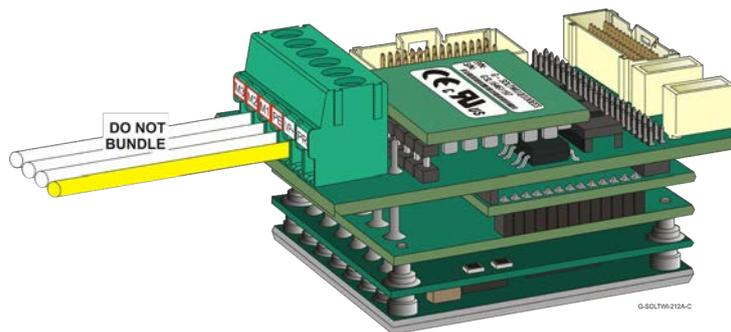

Figure 10: Connecting the Motor Power Wires
4. Connect the motor power wires as shown in Figure 10. The Yellow wire is the Grounding wire.